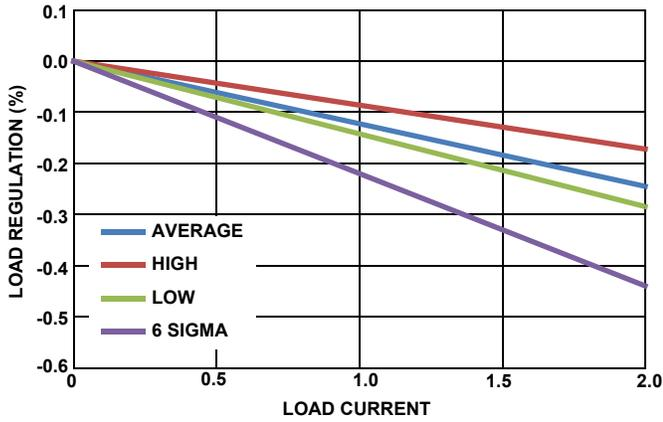

FIGURE 12. LOAD REGULATION, $T_A = +105^\circ\text{C}$, 2.7V_{IN} , 0.6V_{OUT} , 1MHz
- Not tested in production. Characterized using evaluation board. Refer to Figures 12 through 14 load regulation diagrams. $+105^\circ\text{C}$ T_A represents near worst case operating point.